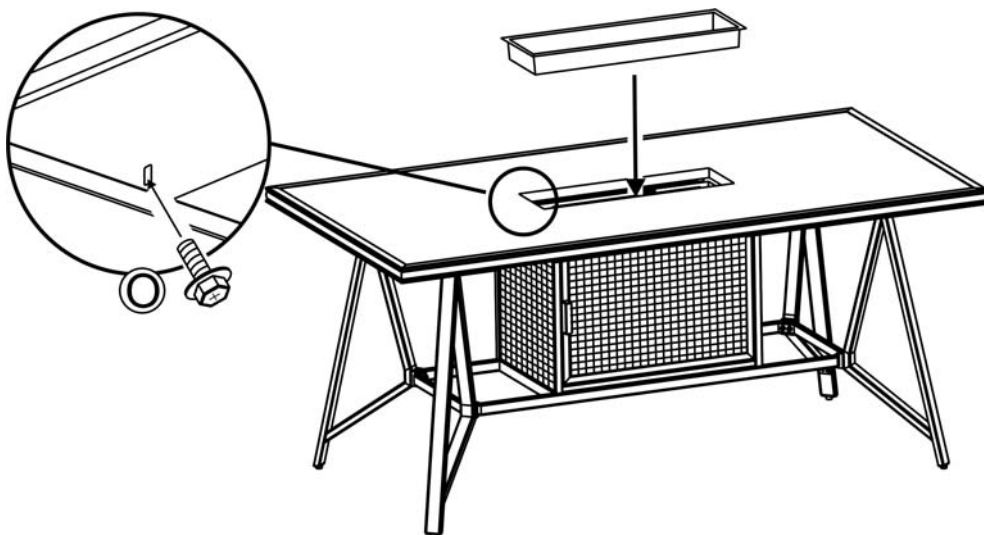

Figure 6
7. Place the burner pan protective ring into the firepan/burner assembly as shown in Figure 6. Align the holes in the burner pan protective ring with the pre-drilled holes on the firepan/burner assembly. Secure the burner pan protective ring to the firepan/burner assembly by using the M4 screws as shown in Figure 6.